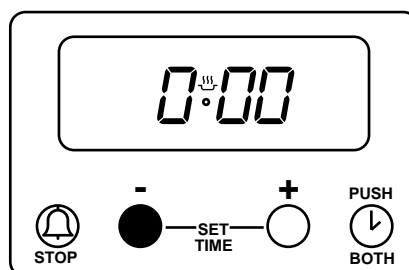

Fig. 13.8
Press and hold button (1) and the display will count down in one minute intervals to 0:00. See Fig. 13.8. Release button (1).